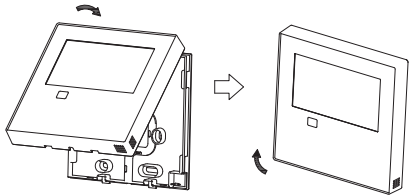

Fig 3-9
- After adjusting the upper case and then buckle the upper case; avoid clamping the wiring during installation. (Fig 3-9)